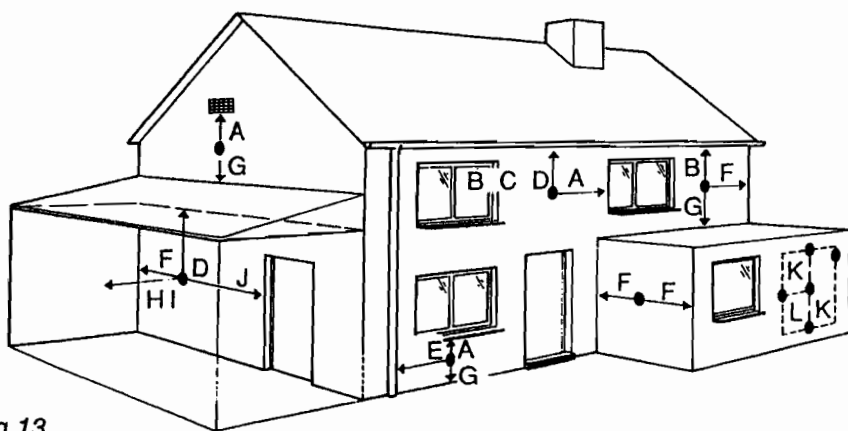

Fig. 13
6.6.8 The flue must be positioned such that the combustion products produced can disperse freely at all times - refer to Fig. 13